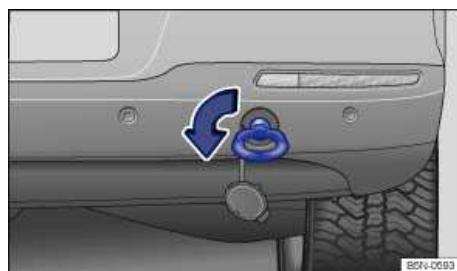

Fig. 215 On the right in the rear bumper: Screwing in the towing eye.
- Screw the towing eye **counterclockwise** into the threaded hole ⇒ fig. 215 as far as it will go ⇒ ①. Use the lug wrench to turn and tighten the towing eye.